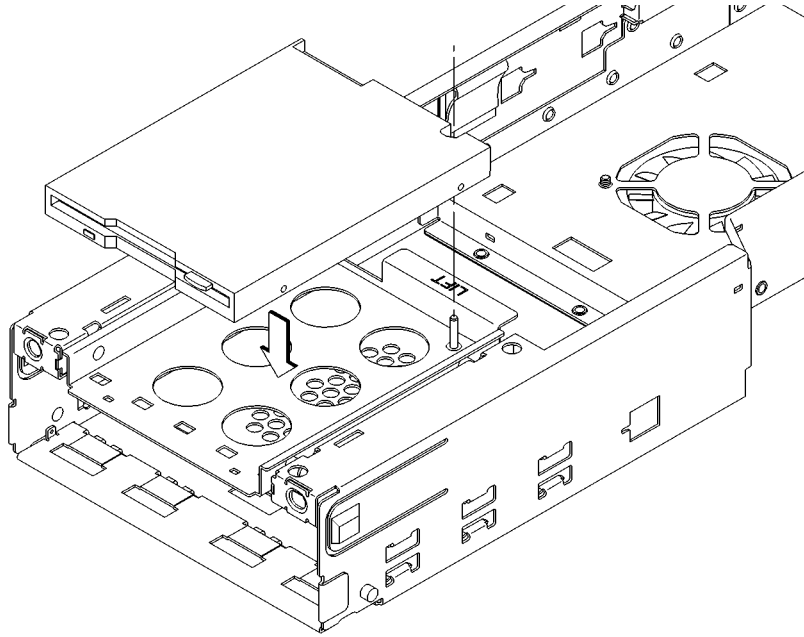

Figure 31
- 2 Set the floppy drive in the floppy support tray. Be sure to line up the alignment pin in the tray with the hole in the floppy drive, as shown in Figure 31.